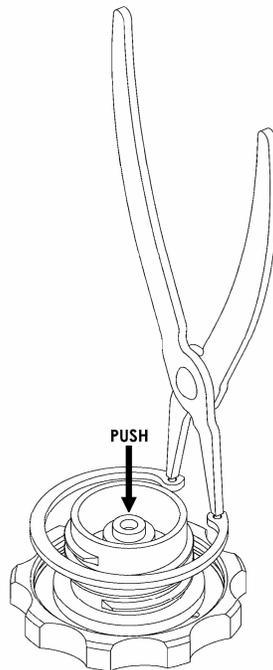

Figure 3
- 10) With your free hand, firmly push down (with approximately 20 pounds of force) on the threaded base, compressing the spring until the threaded base bottoms out inside the gas cap, as shown in Figure 3. Increase pressure on the retaining ring pliers to compress the retaining ring enough to lower it into the gas cap until the ring is aligned with the retaining ring groove. Let pressure off the pliers to allow the retaining ring to seat itself inside the groove. **Make sure the retaining ring is completely seated inside the groove. Failure to properly seat the retaining ring in the groove could result in the gas cap falling off unexpectedly.**